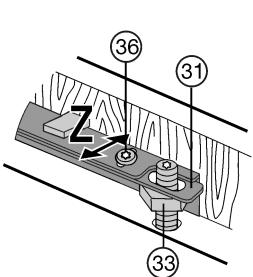

Fig. 22
- ▶ To align the unit door in depth Z: Undo top screws Fig. 22 (36), bottom hexagon head screws Fig. 22 (35) with ring spanner Fig. 22 (37) provided, then shift the door.